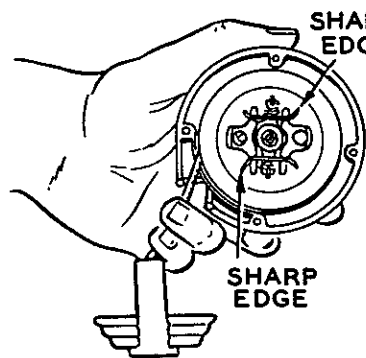

FIGURE 18-1. SERVICING THE RECOIL STARTER
Starter Installation: Follow each step in proper sequence. Refer to Figure 18-1 for visual aid.
2. Secure cup no. 2 by placing lock washer no. 26 and flat washer no. 24 between cup and capscrew no. 23 (Figure 18-1).
1. Avoid losing spring no. 8 by holding washer no. 7 in position with hand while removing truarc retainer ring no. 6 with a screwdriver (Figure 18-1).
3. To prevent spring rotation of rotor (rope sheave) no. 17, hold cord as shown in Figure 18-1 while
4. Prevent rewind spring no. 18 from escaping from cover (and causing personal injury) by carefully lifting rotor no. 17 only 1/4 inch (6 mm) away from the cover and detach inside spring loop from rotor (Figure 18-1).
2. Tie single knot in end of new cord (Figure 18-1).
3. Spring holders furnished with replacement springs simplify the assembly procedure. Place spring in proper position as shown in Figure 18-1, with the outside loop engaged around the pin. Then press spring into cover cavity, thus releasing the spring holder.
3. Install the following parts and assembly: Washers no. 9 and 10, friction shoe assembly (see Figure 18-1 for positions) (including parts no. 11, 12, 13 and 14), spring no. 8, larger washers no. 7 and truarc retainer ring no. 6.